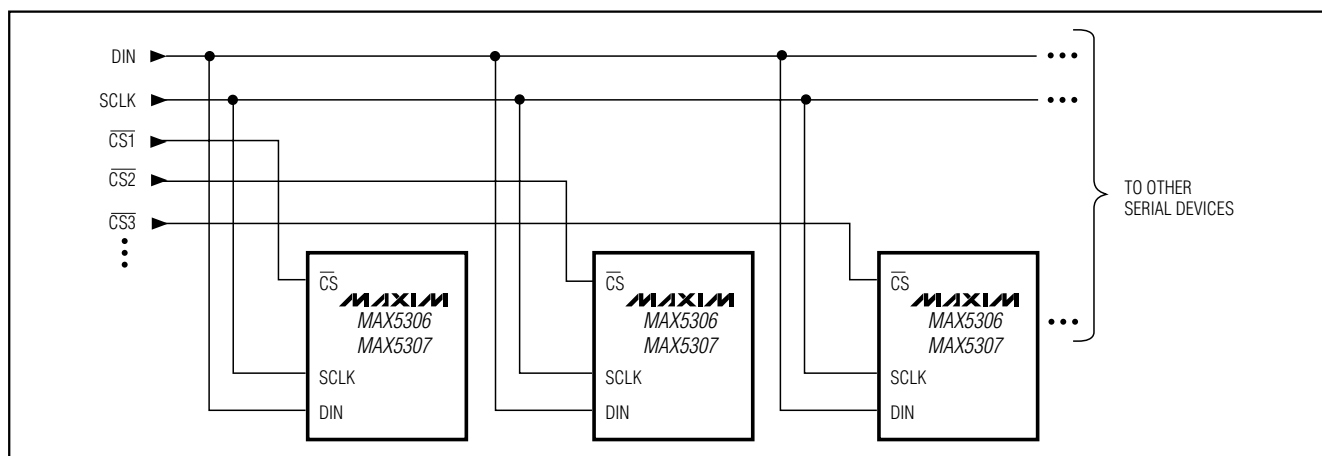

Figure 6. Multiple MAX5306s or MAX5307s Sharing a Common DIN Line
Figure 6 shows an alternate method of connecting several MAX5306s or MAX5307s. In this configuration, the data bus is common to all devices; data is not shifted through a daisy chain. More I/O lines are required in this configuration because a dedicated chip-select input (CS) is required for each IC.